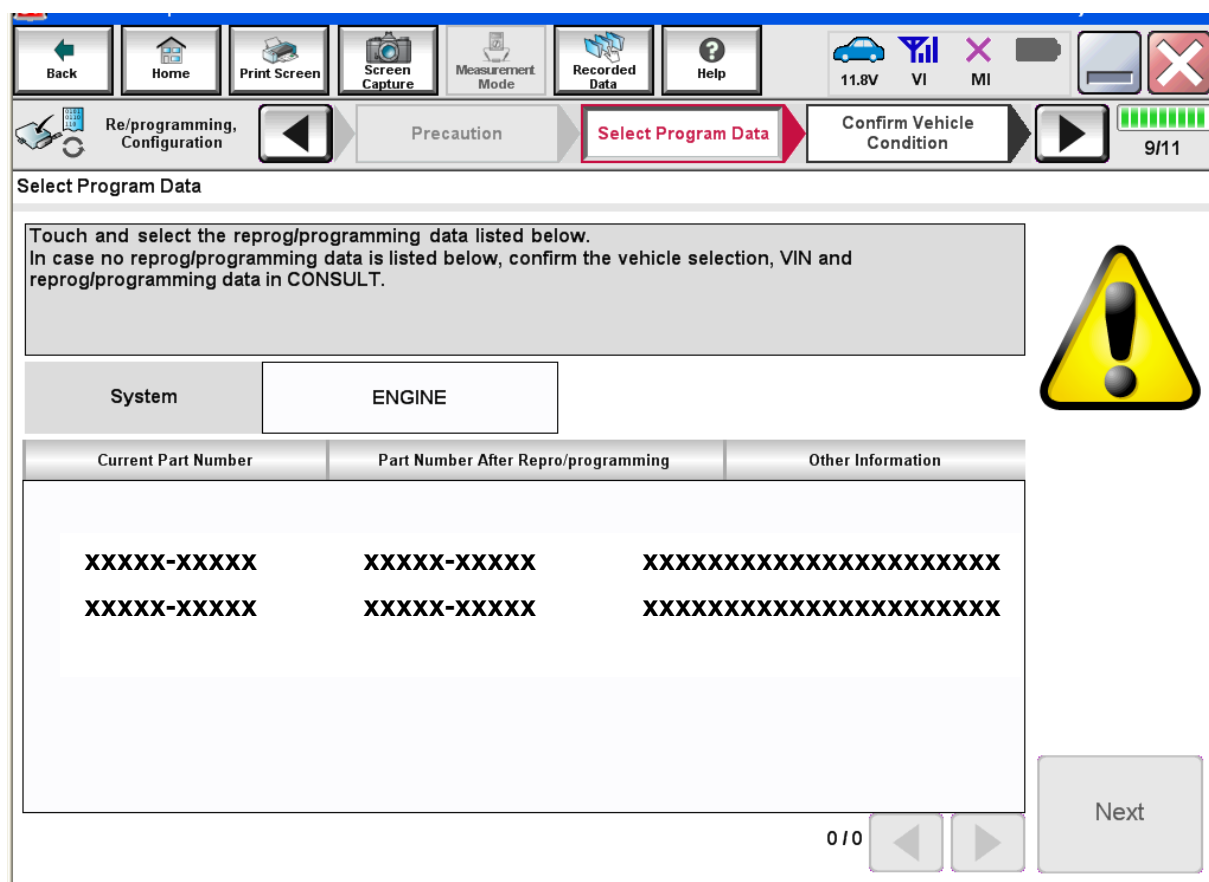

Figure 17
- In this case, the screen in Figure 17 displays.